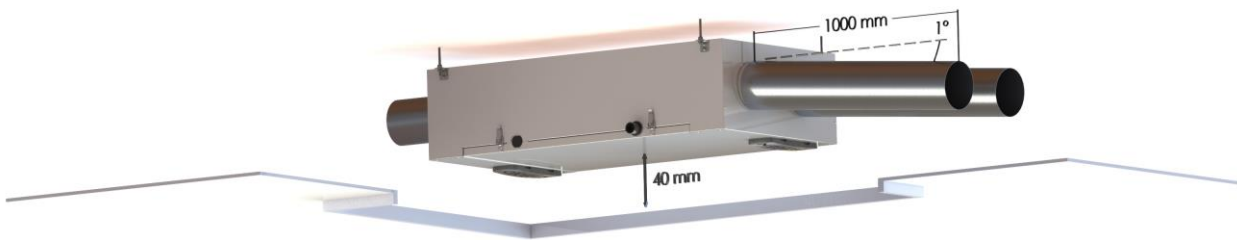

Figure 3. Air intake duct connection diagram
**IMPORTANT!** At least 1° ventilation duct incline (refer to Figure 3 "Air intake duct connection diagram") should be ensured or other sufficient measures taken to prevent ingress of outdoor humidity or precipitation into the Unit.